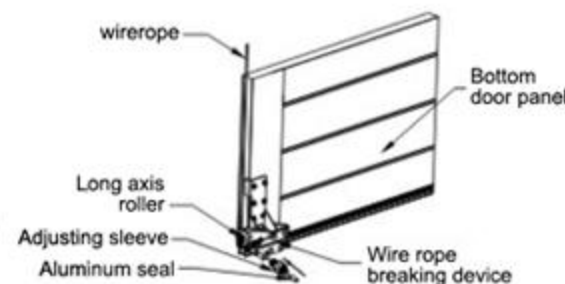

Figure 7-2
7.1.2 Installation of wire rope breakage prevention device in high-lift installation mode (Fig. 7-2)